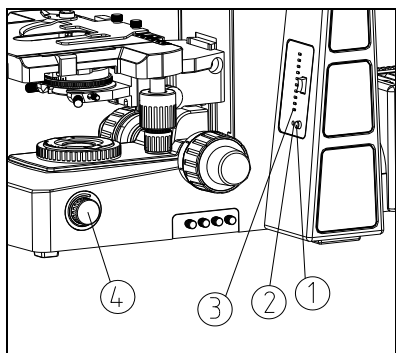

Fig.11
(1) Put through the power and turn on the main power switch to “—” (see Fig. 11).
(2) Adjust the light adjustment knob (4) until the illumination is comfortable for observation. Rotate the light adjustment knob clockwise to raise the voltage and brightness. Rotate the light adjustment knob counterclockwise to lower the voltage and brightness.
(3) Press the light intensity reset button (1), reset the light intensity to preset position. Rotate the setting screw (2) with a small “-” type screwdriver to set the light intensity. Rotate it in clockwise to raise the light intensity, while lower it in counterclockwise.